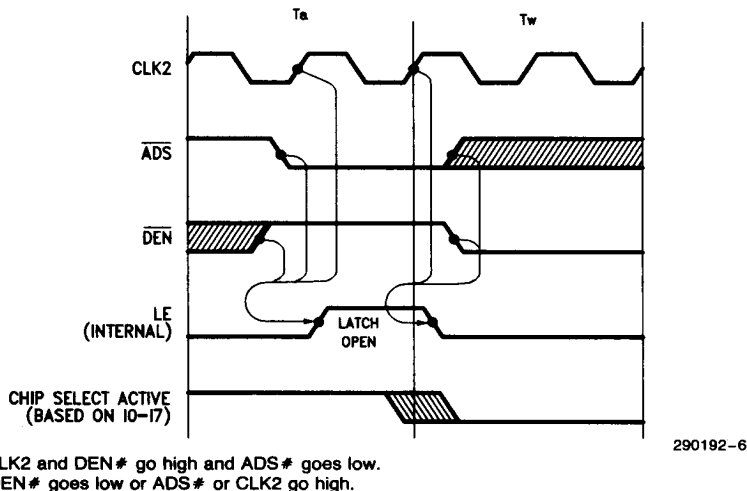

Figure 5. Internal LE and External Chip Select Timing
Selects are latched on the falling edge of an internal Latch Enable (LE), which is generated from ADS#, DEN#, and CLK2. The proper combination of these signals occurs during an 80960 address state (Ta). Figure 5 shows the relationship of the internal LE and external chip selects to the three signals at the end of a Ta state. All selects are cleared to an inactive high state at the start of a recovery state. (Tr). All eight selects (four external and four internal) are routed to the Wait-State Table.